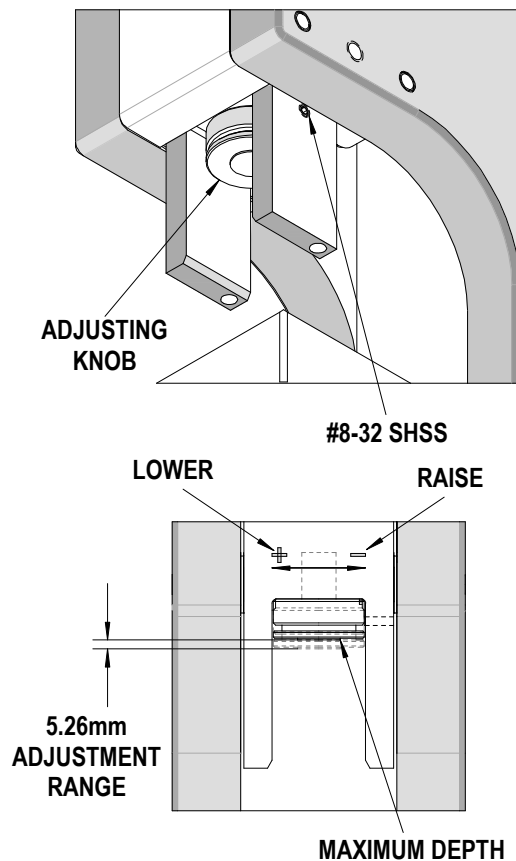

Figure 2-5
1. Loosen the #8-32 set screw in the Ram which locks the Ram Adjusting Screw into place. See Figure 2-5.
2. There is an indicator engraved on the ram just above the Ram Adjusting Screw. Turn the Ram Adjusting Screw clockwise (CW) toward the "+" sign to increase the ram stroke. To decrease the stroke, turn the Ram Adjusting Screw counterclockwise (CCW) toward the "-" sign. Stroke adjustment controls the shut height of the connector assembly. Ram stroke is set so that the connector measures a specific shut height